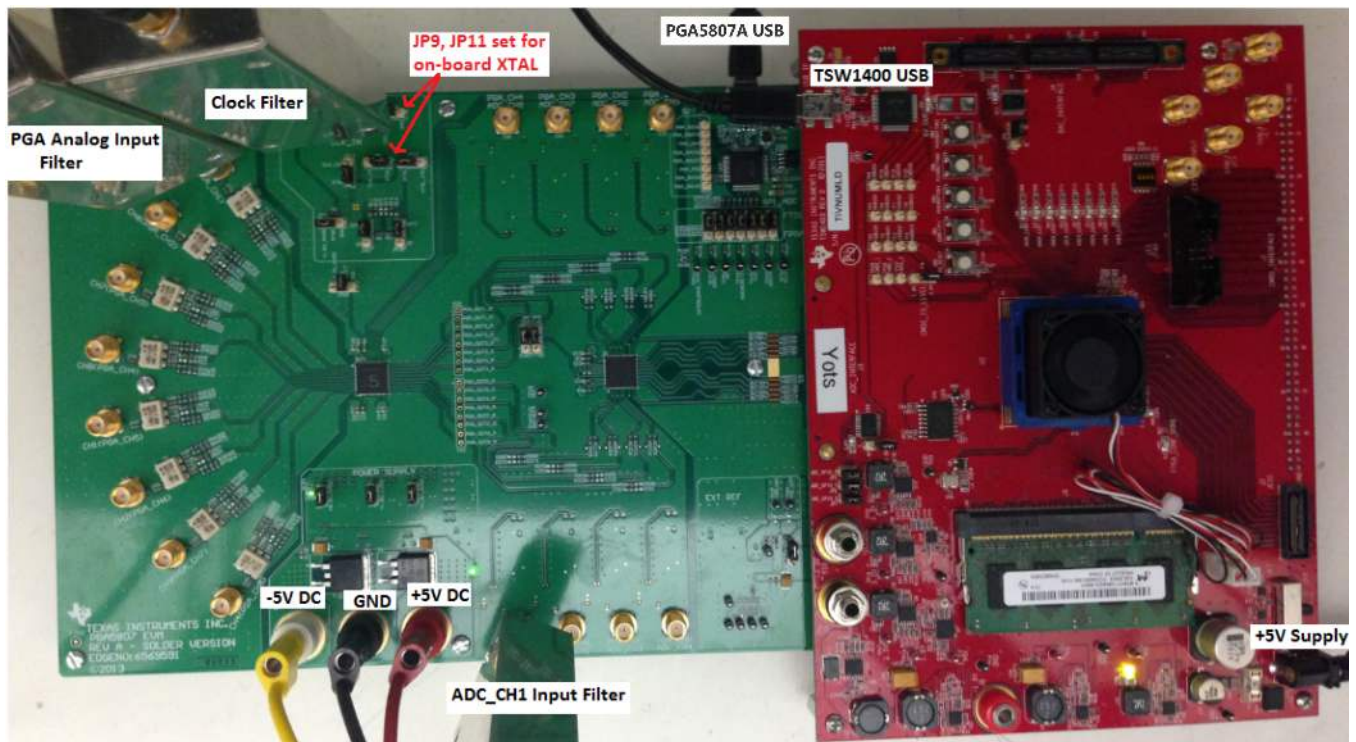
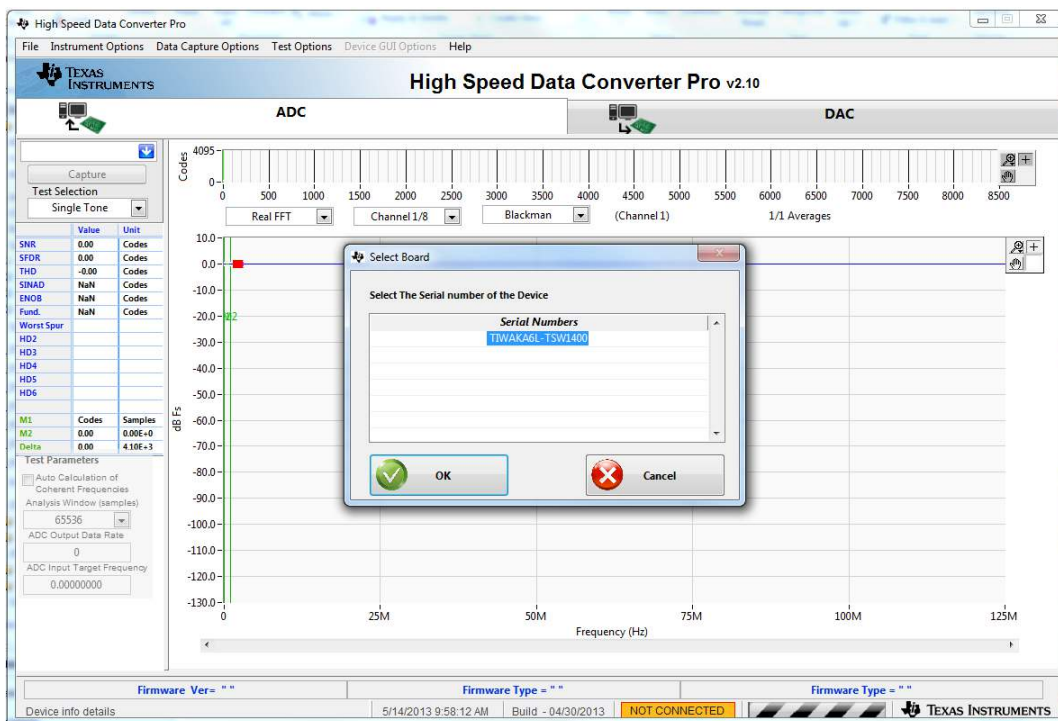

Figure 19. TSW1400 and PGA5807A Setup
Figure 22. TSW1400 GUI Setup (a)
The connections shown in Figure 19 should be made for proper hardware setup (Note: Testing the LVDS interface between the PGA5807A EVM and the TSW1400 EVM can be performed by testing the ADS5296A which comes installed on the PGA5807A EVM. Using a RAMP test pattern function that is generated within the ADS5296A along with the on-board 80-MHz crystal oscillator (XTAL) that provides the ADC sampling clock, the LVDS interface can be tested with no signal generators required. This configuration is only recommended for testing the RAMP function as low phase noise filtered signal sources must be provided to the ADC clock input and the ADC analog inputs or PGA5807A analog inputs for measuring device performance. **Also, the on-board XTAL providing the sampling clock to the ADC provides a 3.3-V signal at its output. This signal level exceeds the maximum voltage rating of the ADS5296A clock input port. Therefore, if EVM jumpers are configured such that the ADC clock port is single-ended, the clock input signal will exceed the maximum voltage rating of the device. This is not a problem for evaluation purposes but could have long-term reliability consequences on the device and is, therefore, not a recommended implementation).**
1. With the setup outlined in Figure 19 established, launch the *High Speed Data Converter Pro* GUI. The GUI should automatically detect the serial number of the TSW1400 EVM, connected as shown in Figure 22. Click on **OK**.